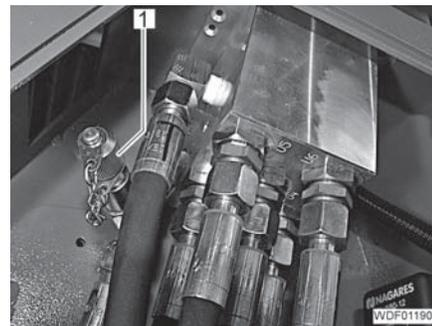

Fig. 36 Test connection
- Install the T-screw connection with the test adapter (Fig. 36,1) in the hydraulic line between the 2/2-way valve and pilot control.